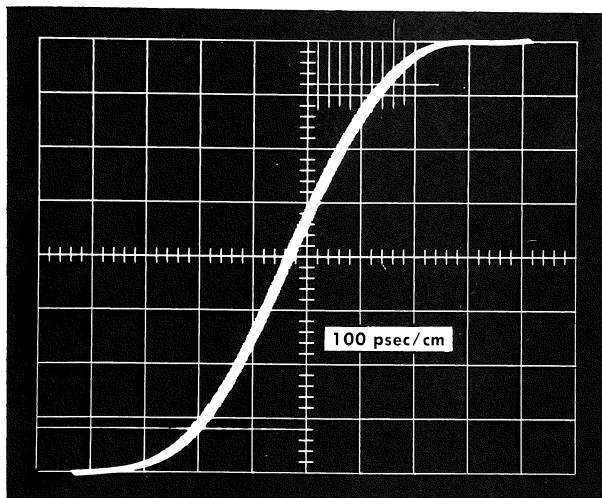

Fig. 5-5. Correctly adjusted system for 0.35-nsec risetime. Graticule specially scribed for this picture.
- e. Check the system risetime as shown in Fig. 5-5.
Generator has not been modified (Replacement Kit 050-072), the Delayed Pulse risetime is between 100 and 150 psec. The system risetime when operating properly will then be 385 to 390 psec. See "Pulse Risetime Measurements" in Section 2 of this manual. If using a Type 661 Oscilloscope with a serial number 270 and above, or if the Delayed Pulse Generator has been modified, the Delayed Pulse risetime is 50 psec or less. The system risetime when operating properly will then be 350 psec, as shown in Fig. 5-5.